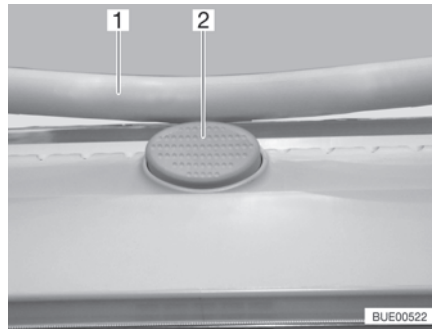

Fig. 79 Safety knob on the Heki skylight
- Press the safety knob (Fig. 79,2) and pull the bar (Fig. 79,1) down with both hands.
- Push the bar upwards with both hands until it is above the safety knob (Fig. 79,2).